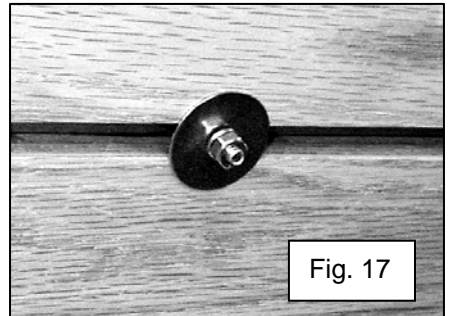

Fig. 17
25. Where there is not a cross sill under the bed strip bolts, install a 1-1/2" outside diameter washer with a 1/4" diameter hole before installing lock washer and nut. See figure 17.